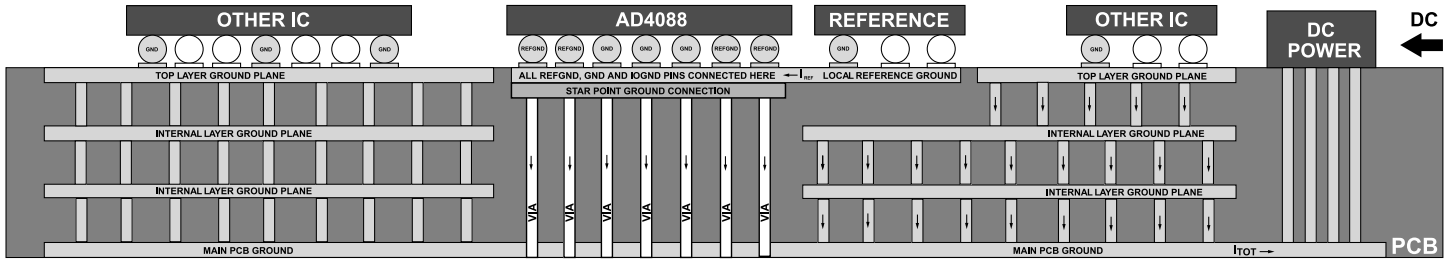

Figure 109. Recommended PCB Ground Planes Layout
- ▶ See Figure 109 for the side view cross-section of the PCB board showing the ground planes distribution . Note that Figure 109 only shows the ground planes but does not including the signal tracks.